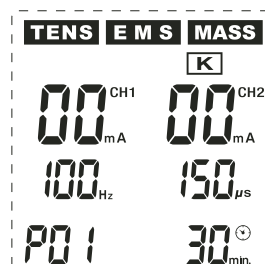

Fig. 12
- ⑭ **(K)**: Special programmes for the **knee joint** (see Fig. 12)